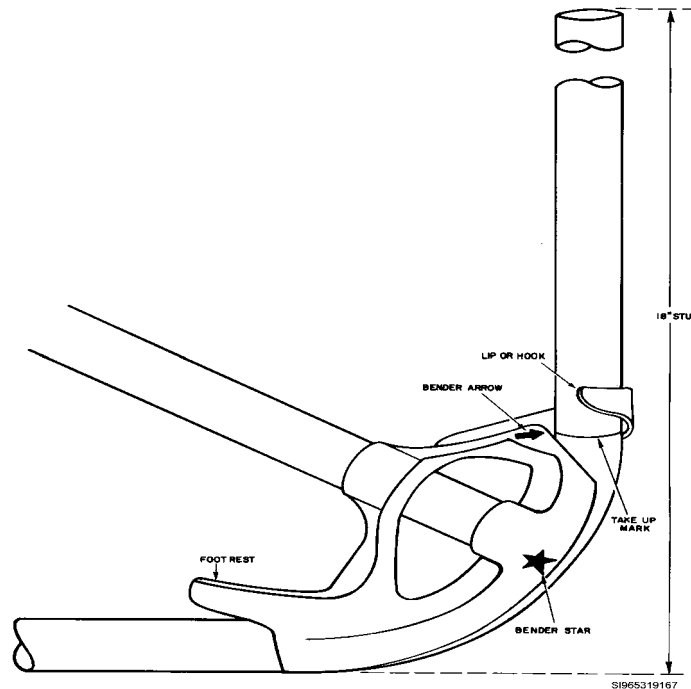

Figure 3. Right angle bend, 90 degrees.
- To make the bend, apply pressure on the footrest as you pull on the handle until the handle is at about a 30° angle with the floor, as shown in figure 3. You should now have a 90° bend with an 18-inch stub.